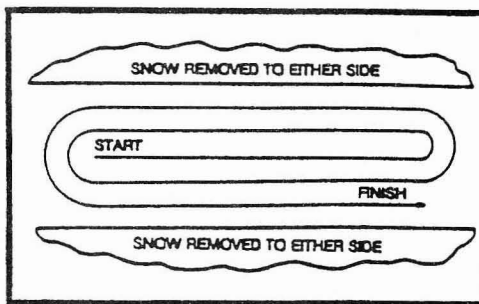

FIG. 23
- A definite pattern of operating is required to thoroughly clean the snow area. (See Fig. 23) This pattern will avoid a second removal of snow and avoid throwing snow in unwanted places. Where it is possible to throw snow to the right and left, as on a long driveway, it is advantageous to start in the middle. Work from one end to the opposite end throwing snow to both sides without changing the direction of Discharge Chute.